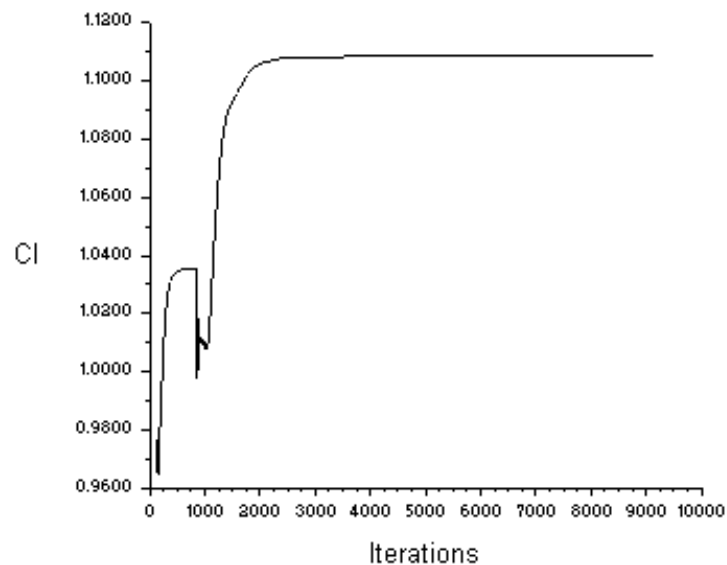

Figure 5.5: Lift Coefficient Plot
13. Iterate the solution till the drag and lift coefficients have reached a constant value as shown in Figures 5.5 and 5.6.